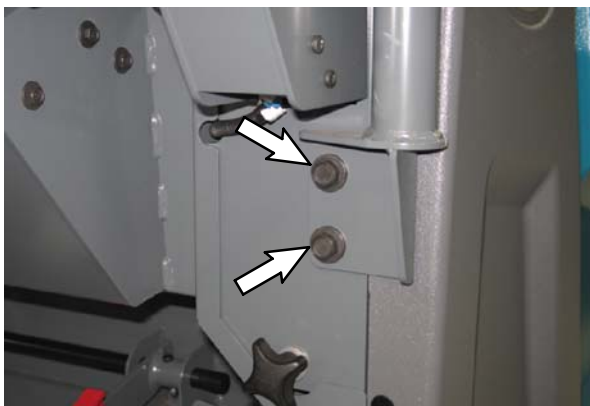
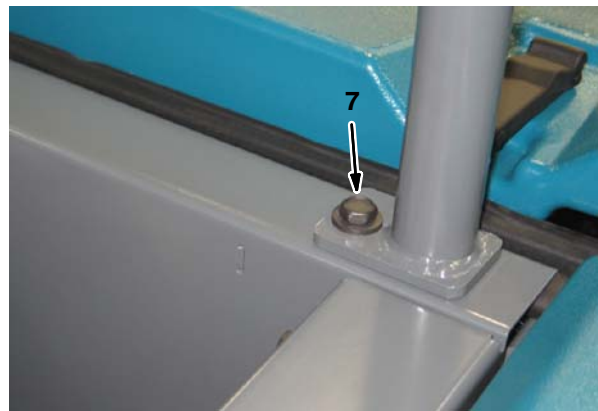
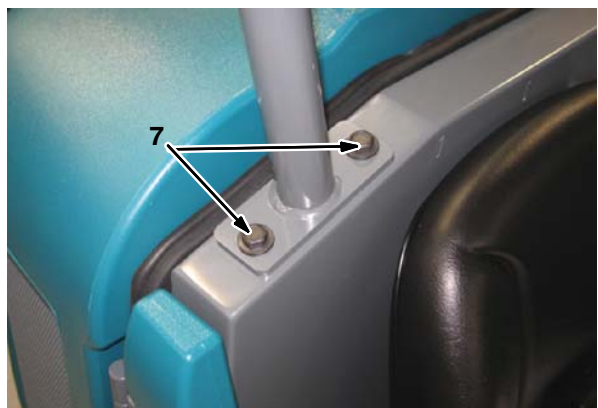
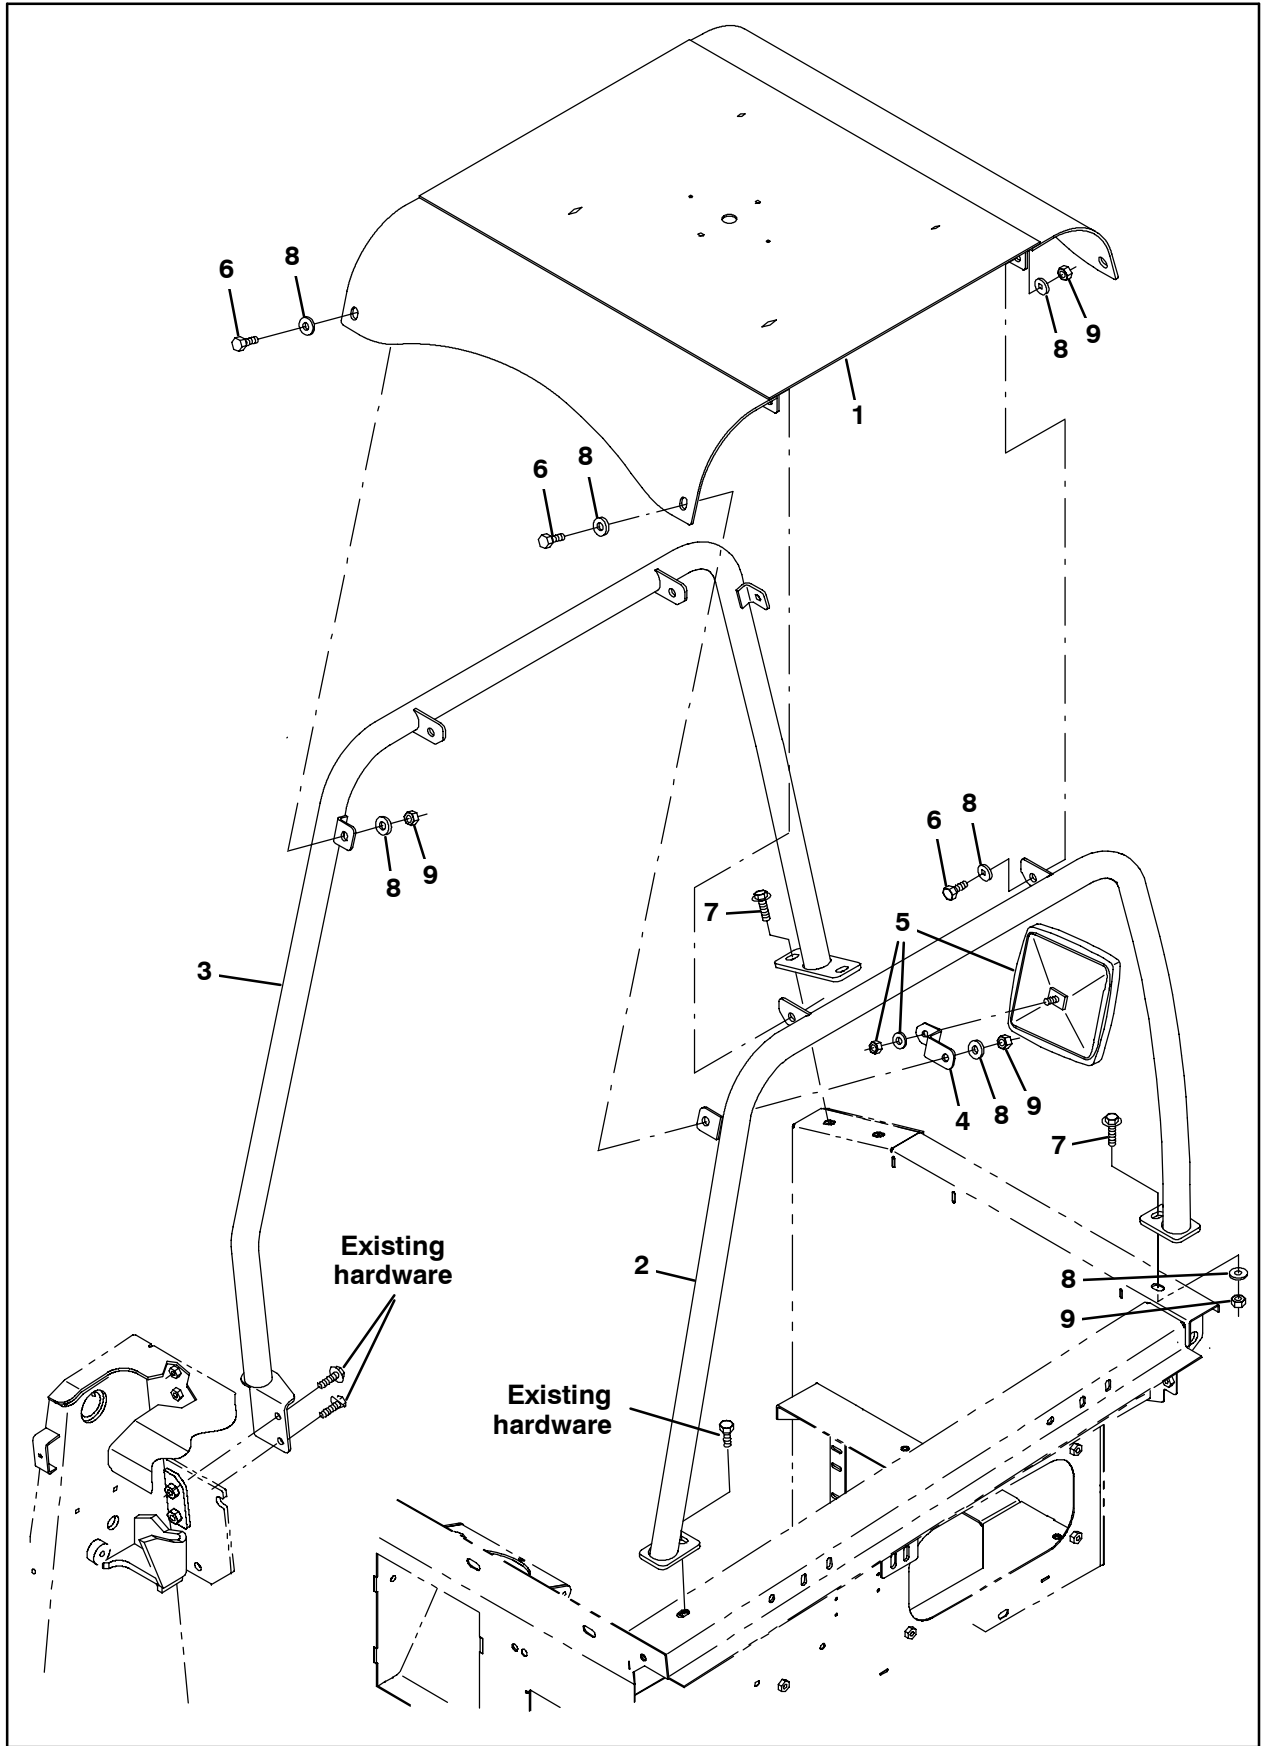

FIG. 3
FIG. 5
FIG. 6
FIG. 7
- Use existing hardware already installed on machine to install the front leg of the right guard leg (3) to the machine. Refer to Fig. 3 and Fig. 7.
- Use existing hardware already installed on the machine to install the front leg of the left guard leg (2) to the machine. Refer to Fig. 4 and Fig. 7.
- Use a hex screw (7), one flat washer (8), and a lock nut (9) to install the rear leg of the left guard leg (2) to the machine. Refer to Fig. 5 and Fig. 7.
- Use two hex screws (7) to install the rear leg of the right guard leg (3) to the machine. Refer to Fig. 6 and Fig. 7.